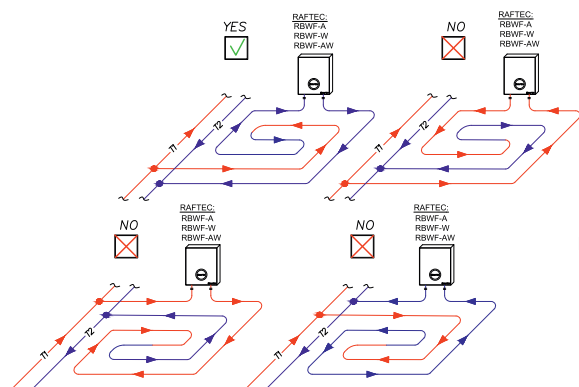

Fig.4
- do not install near other heat sources, for example next to a heater. appliances (see fig. 4)